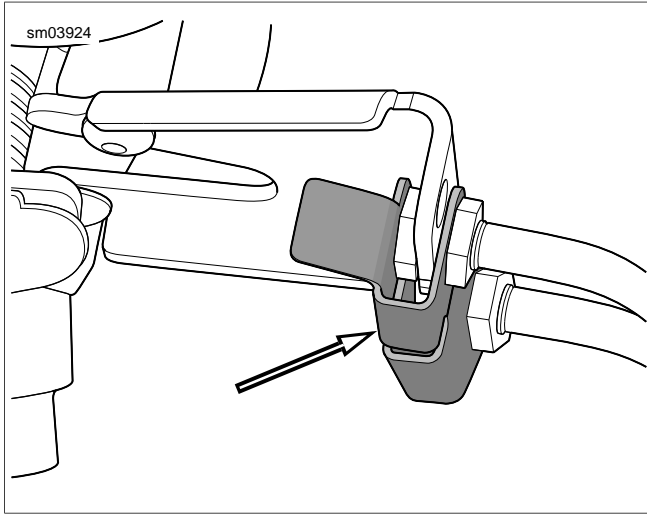

Figure 2-128. Throttle Cable Retention Clip
6. See Figure 2-128. Install the throttle cable retaining clip and place it so the outside of the retaining clip is flat against the throttle body cable mounting bracket and covers the two nuts that are closest to the cable wheel. Tighten the two jamnuts closest to the 90° degree elbow to 36-40 in-lbs (4-4.5 Nm) to secure the retaining clip in place.